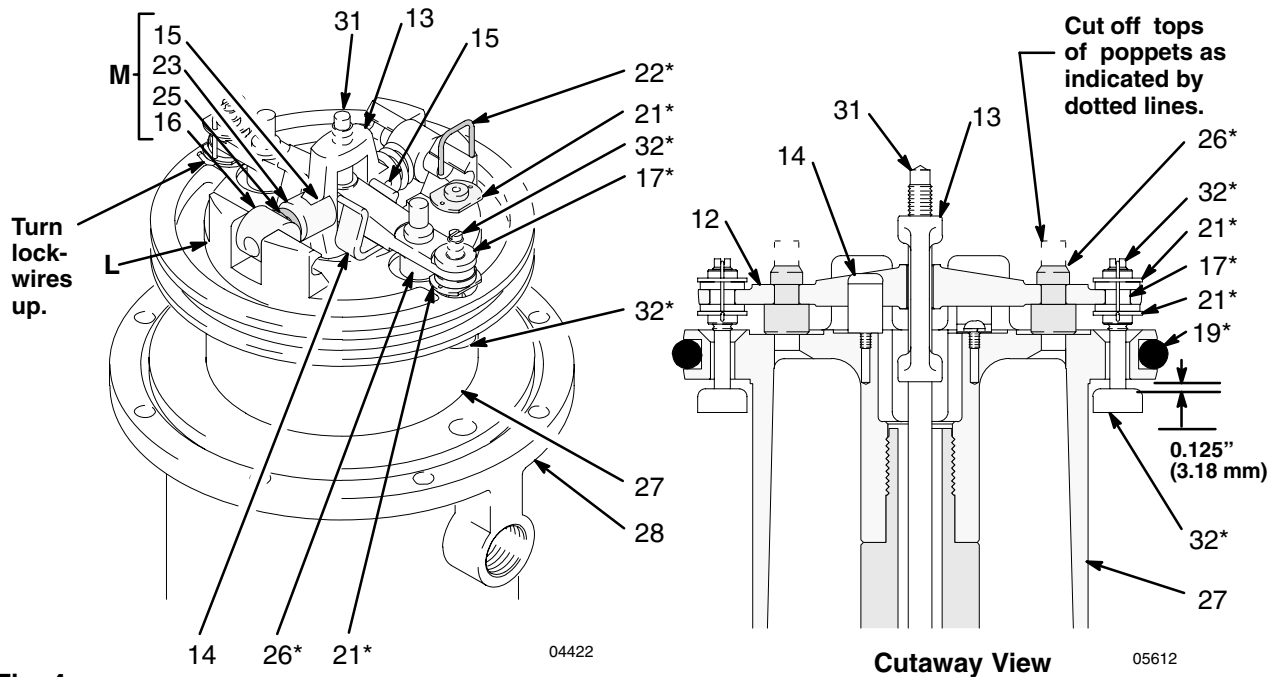

Fig. 4
10. Pull the piston assembly from the air motor base (28), and set it aside.
11. Remove the throat bearing (36) with a 2-in. socket, remove the u-cup seal (10†), and wipe the seat clean with a cloth.
14. Use a screwdriver to push down on the trip rod yoke (13), and snap the toggles down. See Fig. 4.
15. *In this step, while you are prying with the screwdriver with one hand, cover the toggle assemblies with your other hand so as to catch the spring-loaded toggle assemblies when they snap out of the lugs.* Place the tip of a screwdriver into the piston between the piston lugs (L) below the pivot pins (16) on the toggles, pry up with the screwdriver handle to compress the springs on the toggle assembly (M) up and away from the piston lugs, and remove the parts. See Fig. 4.
16. Straighten the lockwires (22\*) and remove them from the valve nuts (21\*). Screw the top nuts off. Remove the trip rod yoke (13), actuator (12), and trip rod (31). Unscrew the bottom nuts (21\*), and remove the poppets. Make sure the valve bar spring clips (14) are not worn or damaged and that they properly guide the actuator (12).
17. Remove the exhaust valve poppets (26) by cutting them with a side cutter, then pull them out of the actuator (12).
To reduce the risk of pinching or amputating your fingers, keep your fingers clear of the toggle assemblies when you are snapping the toggles (M in Fig. 4 ) up or down.
1. Place the piston rod (29) flats in the vice with the air motor up.
2. Pull the exhaust valve poppets (26\*) into the valve actuator (12), and clip off the top parts of the poppets (shown with dotted lines in the **Cutaway View** in Fig. 4).
3. Install the grommets (17\*) in the actuator (12), place the inlet valve poppets (32\*) in the piston, and thread the bottom valve nuts (21\*) onto the inlet valve poppets until there are a few threads left before the threads run out.
4. Grease heavily and place the trip rod (31) in the piston, place the actuator (12) in the yoke (13), and place the well-greased actuator/yoke assembly in the piston, with the trip rod going through the center holes of the actuator and yoke and the inlet valve poppets (32\*) going through the grommets (17\*).
6. Install the toggle pins (15) in the yoke (13), place the toggle arm (23) ends of the toggle assembly (M) onto the toggle pins, and snap the pivot pin (16) ends of the toggle assembly into the lugs (L).
7. Measuring with the gauge (Part No.171818), create 0.125-in. (3.18 mm) of clearance between the inlet valve poppets (32\*) and the piston seat when the inlet valve is open. See the **Cutaway View** Fig. 4.